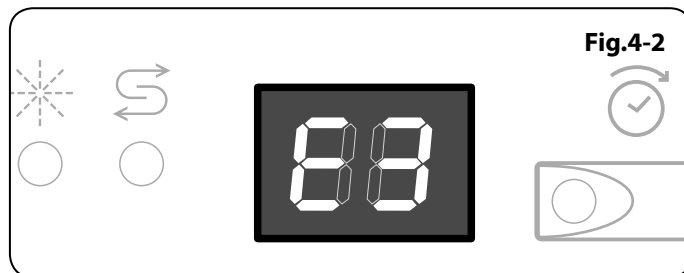

Fig.4-2
- When the time remaining indicator blinks 'E3' (**Fig.4-2**). Have you checked if the drain hose is too low?